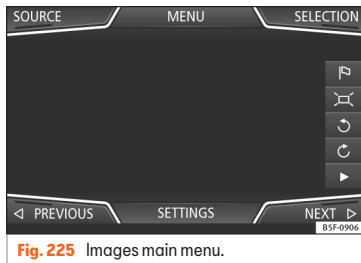

Fig. 225 Images main menu.
- Press the **SOURCE** »» **Fig. 225** function button and select the data storage device where the images are stored.